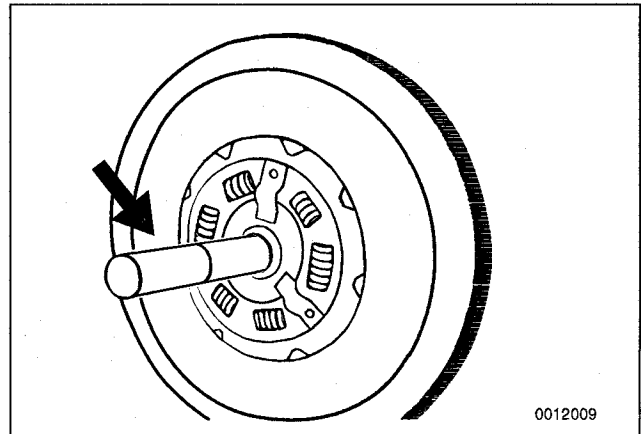

Fig. 7. Clutch centering tool (arrow) shown installed through clutch disc and flywheel.
5. Install a clutch centering tool through clutch assembly to prevent clutch disc from falling out when removing pressure plate. See Fig. 7.
6. Center clutch disc on flywheel using centering tool (BMW special tool no. 21 2 130 or equivalent). Refer to Fig. 7.